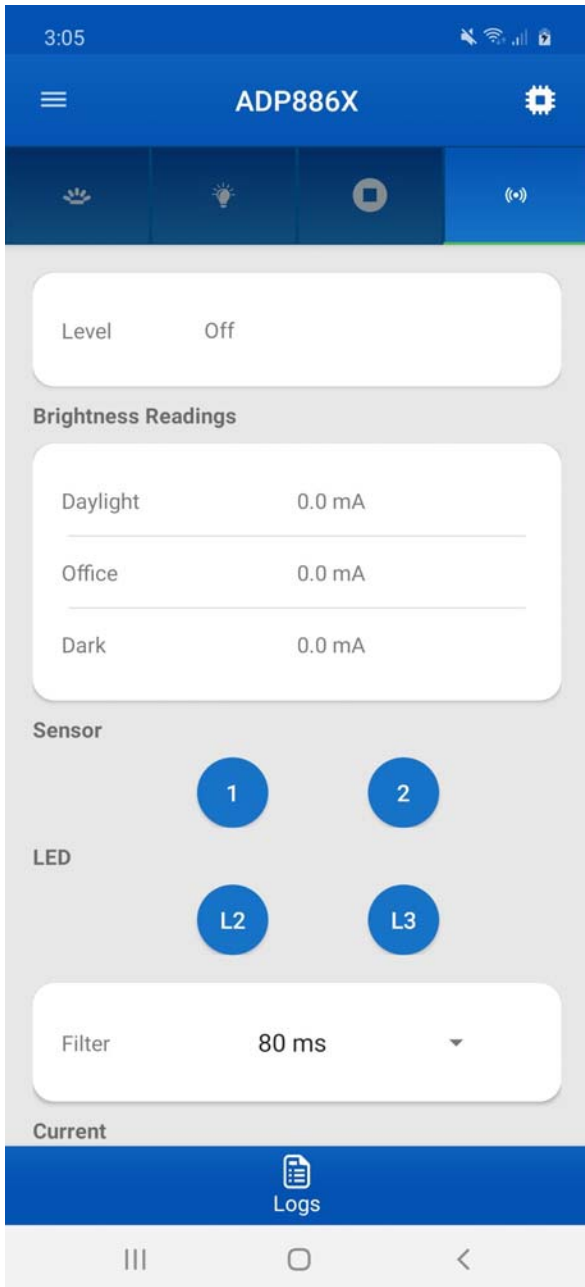
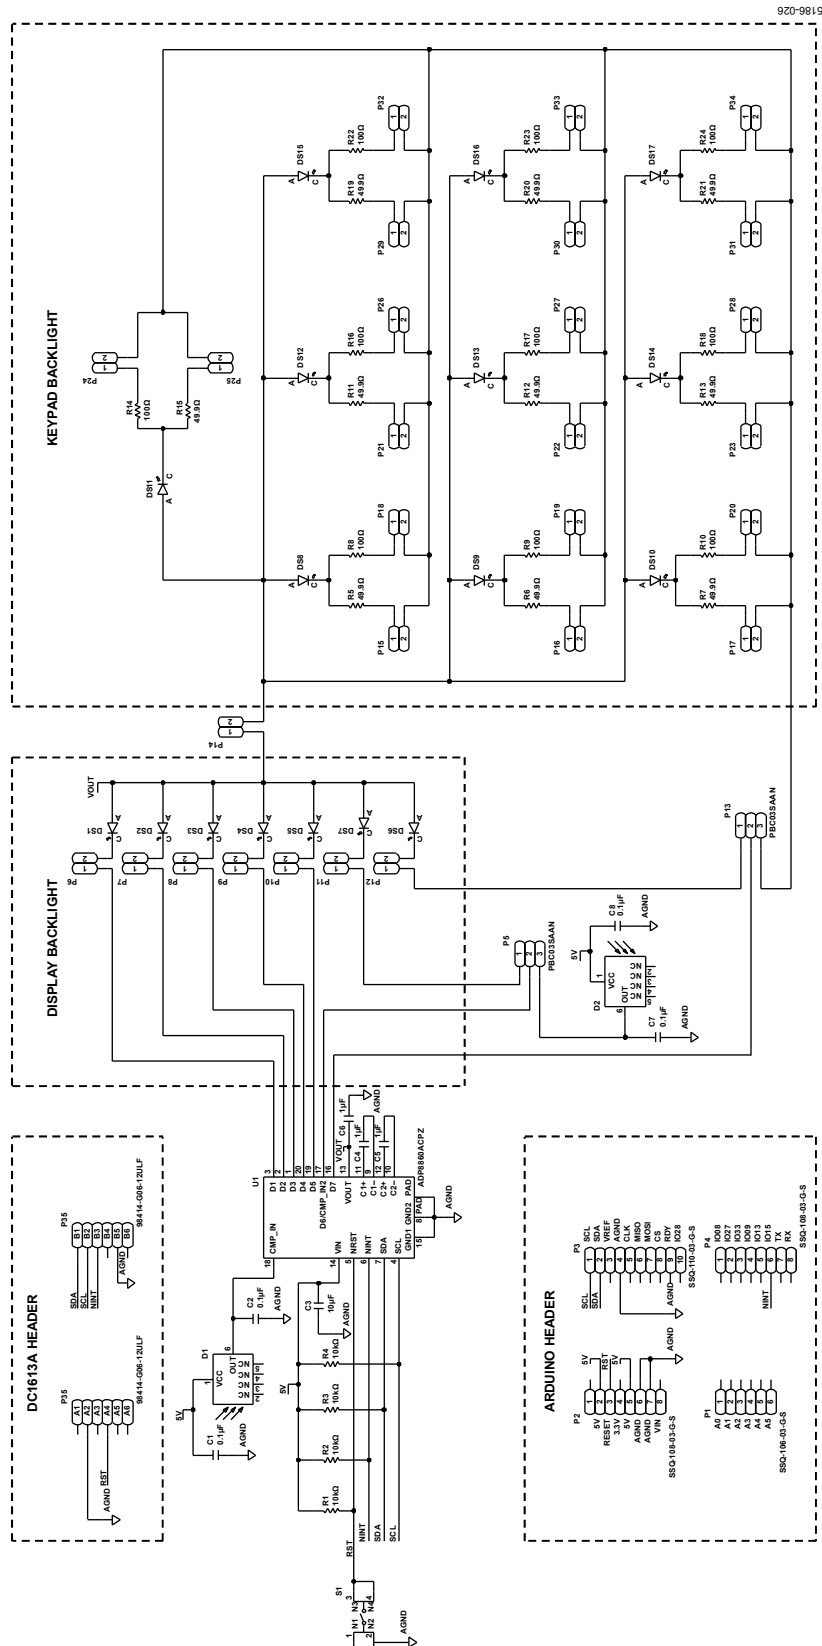

Figure 23. **A.L.S.** Tab for the Android App
Figure 25. ADP8860SHIELD-EVALZ Schematic
- In the **A.L.S.** main tab for Windows, users can enable the photosensor and comparator with a threshold and hysteresis current configuration (see Figure 14). Note that this feature is only available for the **ADP8860**. To utilize the secondary photo sensor, move **P5** to the other position (see Figure 25 and Figure 26).
- In the **A.L.S.** main tab, users can enable the photosensor and comparator with a threshold and hysteresis current configuration (see Figure 23). Note that this feature is only available for the **ADP8860**. To utilize the secondary photo sensor, move **P5** to the other position (see Figure 25 and Figure 26).